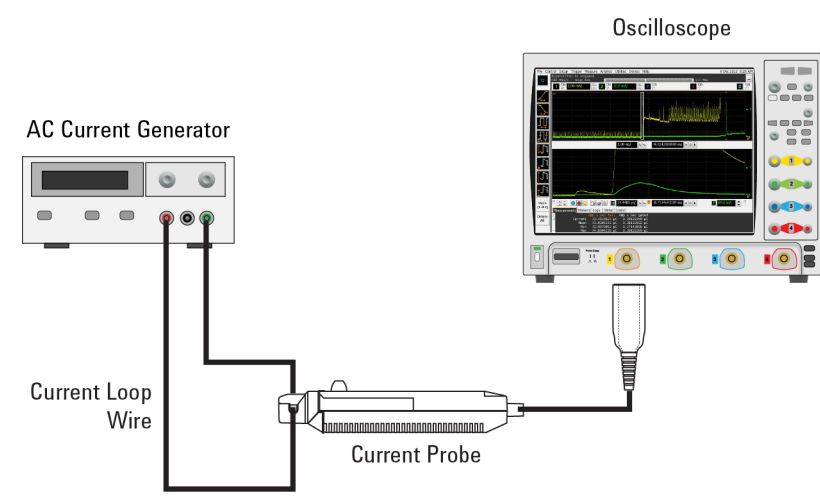

Figure 7 Sensor Head Clamped to Wire
- 5 Connect the wire to the current terminals of the AC current generator as shown in Figure 7.